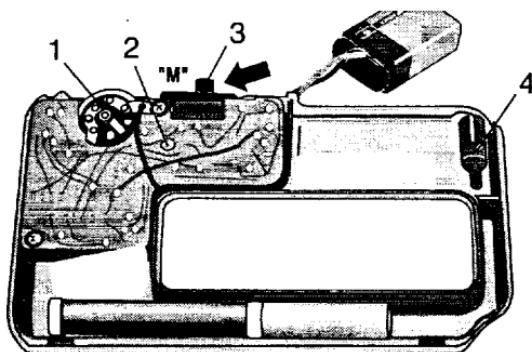

Fig. 3
- Set selector switch 3 (Fig. 3) to setting "M".
- Completely rotate the adjuster wheel (Fig. 3) to the limit stop and then in the reverse direction by $\frac{1}{2}$ the number of rotations.
- Adjust the potentiometer (2) using a small screwdriver 4, (supplied in housing) so that the display illuminates.
- For testing purposes, slightly rotate the adjuster wheel (1) in the reverse direction. The LED must extinguish.